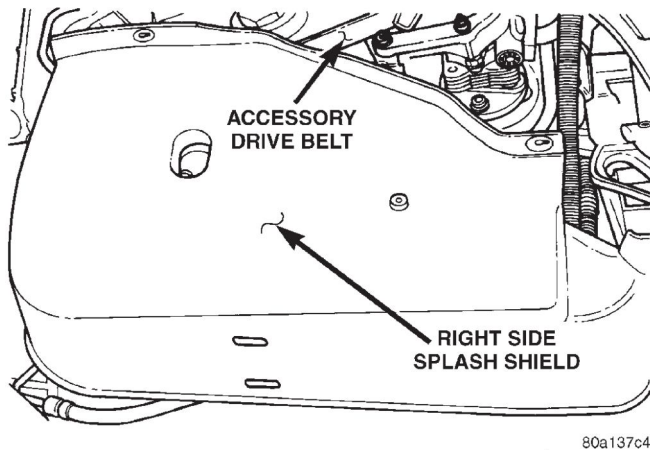

Fig. 21 Right Side Splash Shield
- (14) Disconnect glow plug connectors.
- (15) Disconnect electrical connector at number 1 fuel injector.
- (16) Raise vehicle on hoist.
- (17) Remove right side splash shield (Fig. 21).